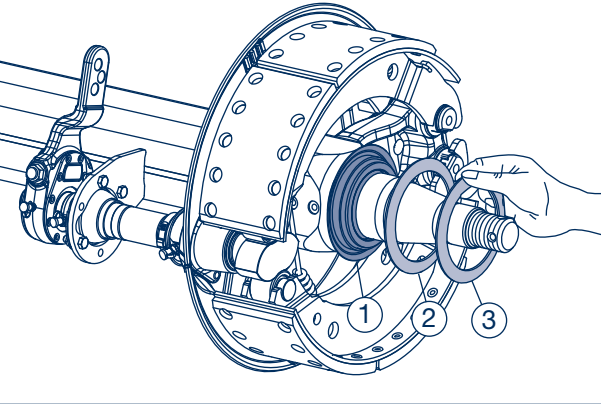

Figure 39
- [1] FL brake / Fig. 39:
- [2] FL brake / Fig. 39: